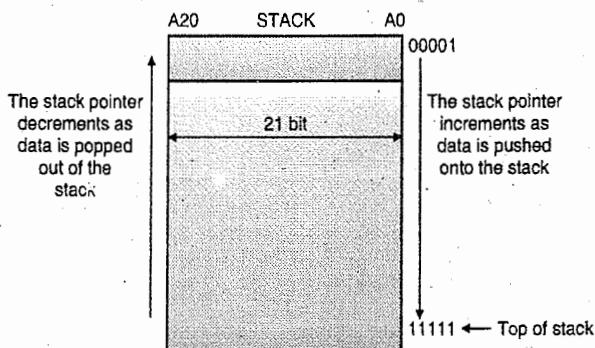

Fig. 4.12.1 : PIC stack
**Size :** The **5 bit stack pointer** can access  $2^5 = 32$  locations making the stack a **32 level deep stack**. Each stack location is **21 bits wide** as shown in Fig. 4.12.1. The stack pointer can take values from 00H to 1FH.